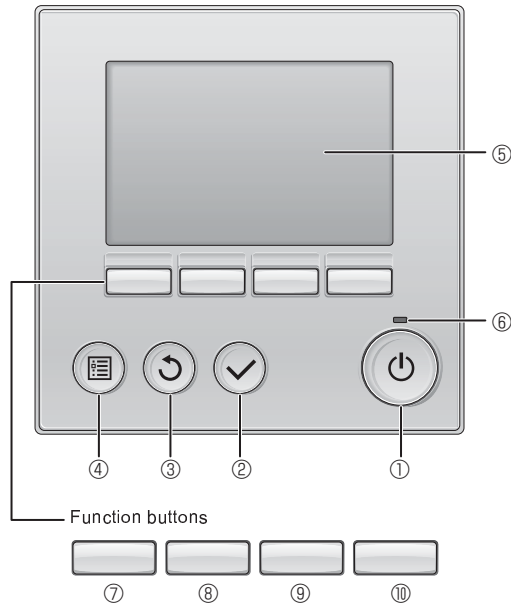

Fig. 7-1
7.2.1. Using wired remote controller (Fig. 7-1)
① [ON/OFF] button